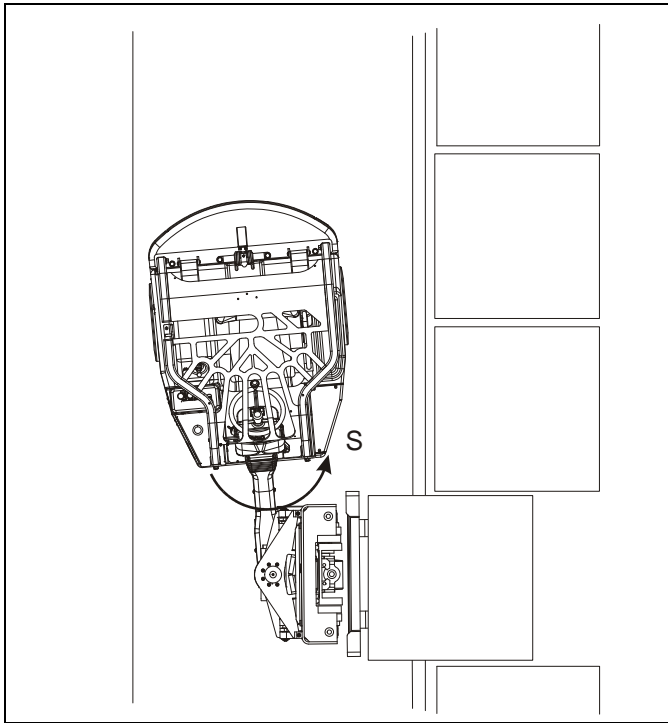

Figure 4-14: Retrieving the Pallet
8. Turn the steering wheel to keep the forks straight as you fully insert them into the load. Lift, tilt, and side shift as required to stabilize and pickup the load. See Figure 4-14. Only raise the load high enough to clear the rack or the load backrest may catch on the rack.